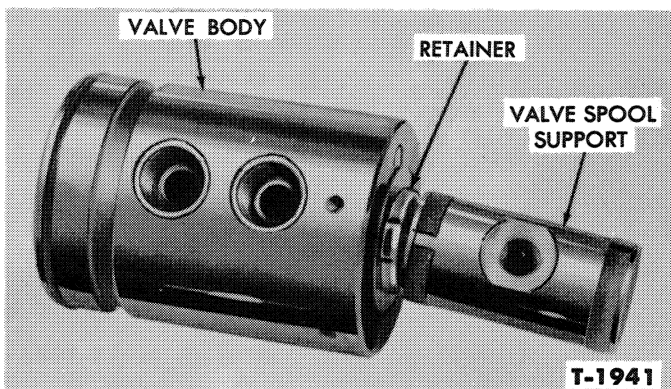

Figure 14—Valve End Body, Spool, and Guide Assembly
- b. Position the valve spool so that the yoke end is on your right and the spool is at the left side of the valve body, Figure 14.